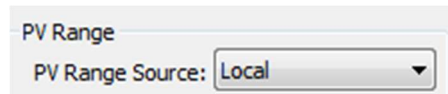

Figure 5.52 PV Range Source Selection
1. Select "detailed Design"->"PV range"-in the drop-down box corresponding to"Pv range source", which includes local and remote sources, as shown in Figure 5.52